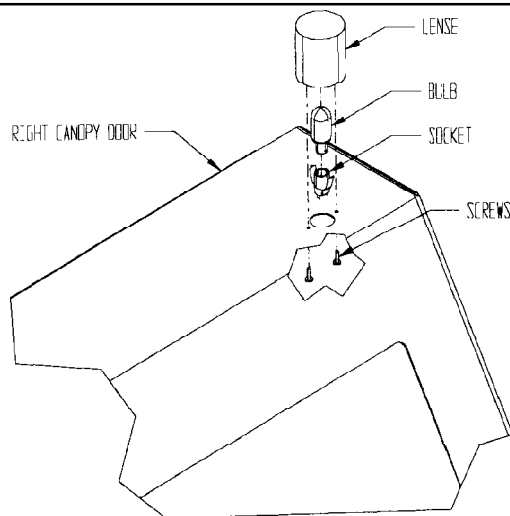

FIG. 7
Locate flasher assembly in carton. Remove the socket and bulb from the lens. Install lens to the top of the right canopy door using the (2) screws provided with the lens. Attach the ground wire to one of the screws. Clip socket and bulb assembly into lens. See FIG. 7.